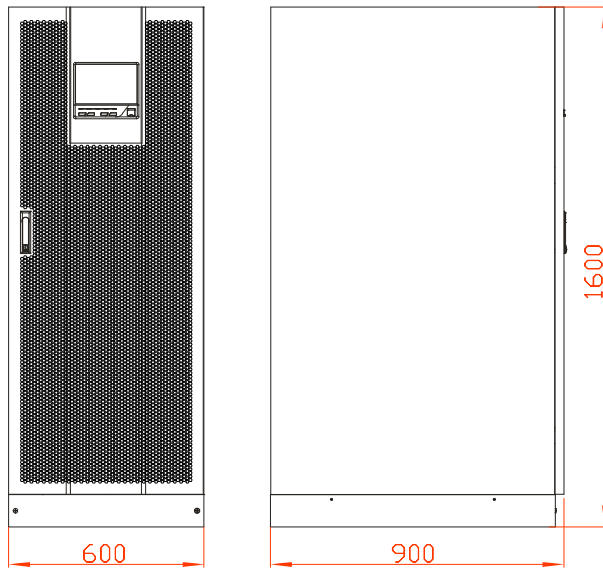

Figure3-13 Size of 160kVA, 200kVA
- Step 1 Determine and plan the installation position according to the UPS size (as shown in Figure3-13) and installation clearance requirement (see 3.2.3 Installation).